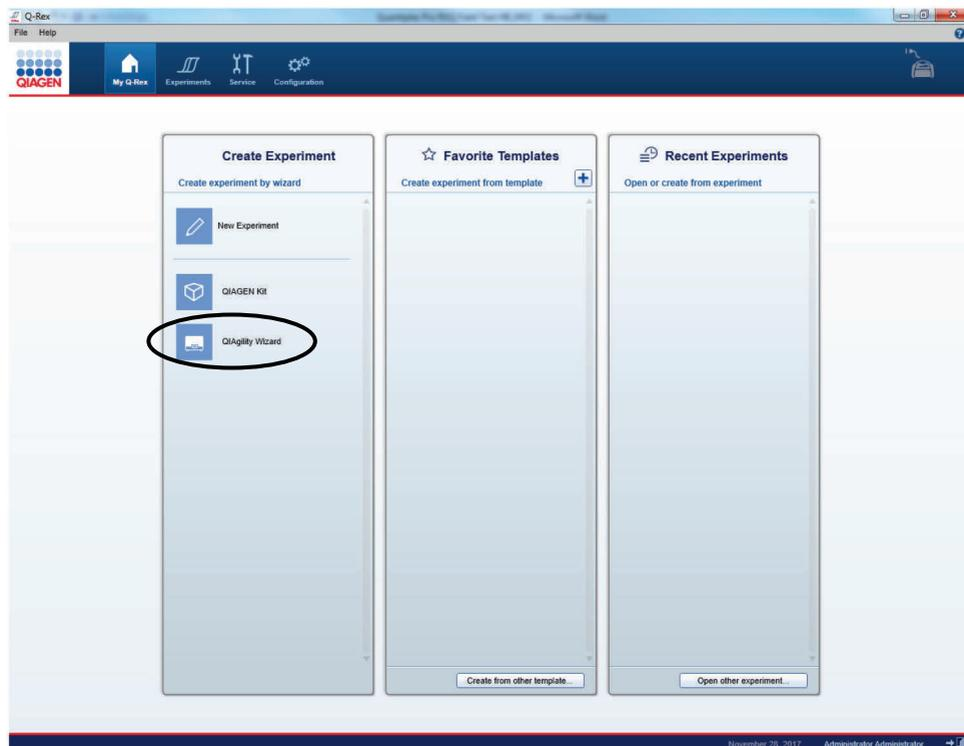

Figure 16. Setting up a quantification run in Q-Rex.
25. Select QI Agility Wizard (Figure 16).